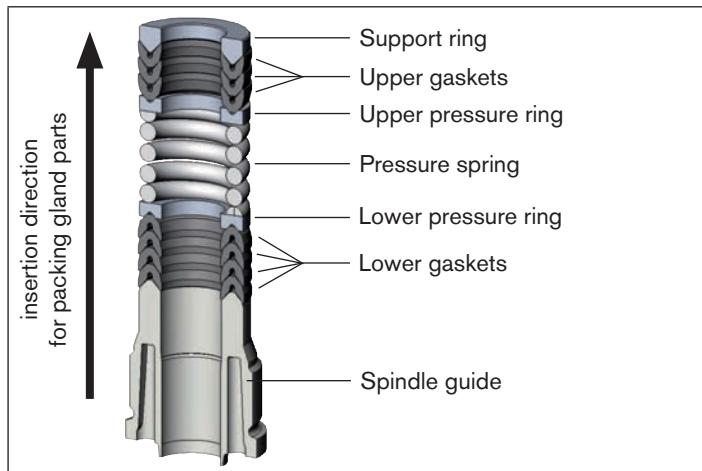

Fig. 24: Seal set for packing gland
- Connect the individual parts to the spindle in the specified direction and sequence (as illustrated in "Fig. 24: Seal set for packing gland").